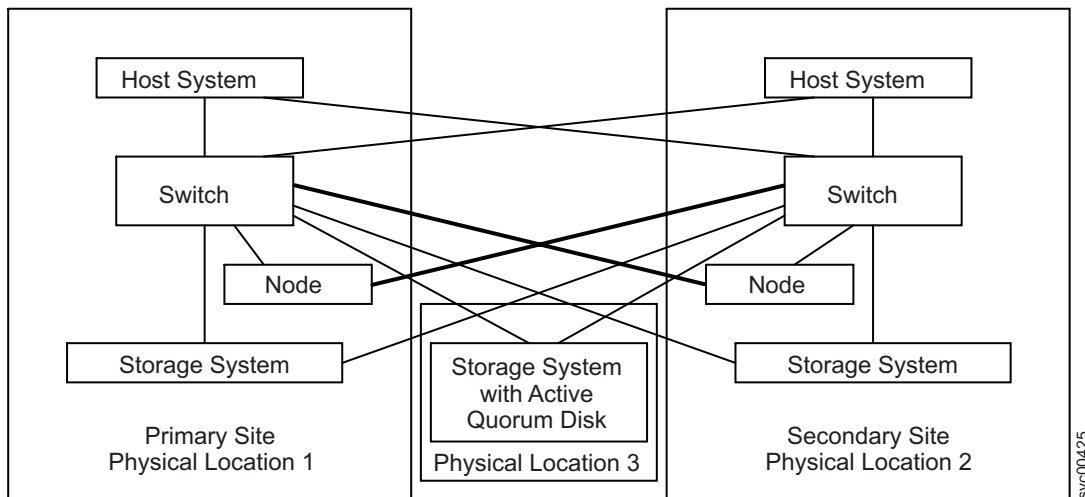

Figure 36. A split cluster with a quorum disk located at a third site
- t Figure 36 on page 98 illustrates an example split cluster configuration. When used in conjunction with volume mirroring, this configuration provides a high availability solution that is tolerant of a failure at a single site. If either the primary or secondary site fails, the remaining sites can continue performing I/O operations. In this configuration, the connections between SAN Volume Controller nodes in the cluster are greater than 100 meters apart, and therefore must be longwave fibre-channel connections.
In Figure 36, the storage system that hosts the quorum disks is attached directly to a switch at both the primary and secondary sites using longwave fibre-channel connections. If either the primary site or the secondary site fails, you must ensure that the remaining site has retained direct access to the storage system that hosts the quorum disks.